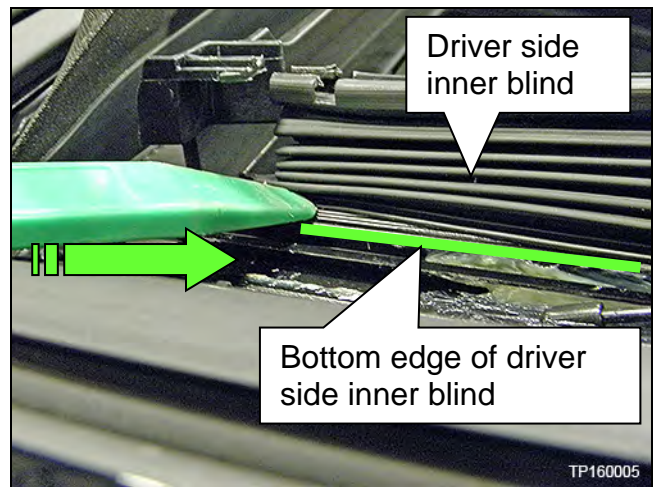

Figure 4
- c. Carefully detach the inner blinds from the moonroof frame by pushing toward the inside of the vehicle along the bottom edge of inner blind (Figure 4).